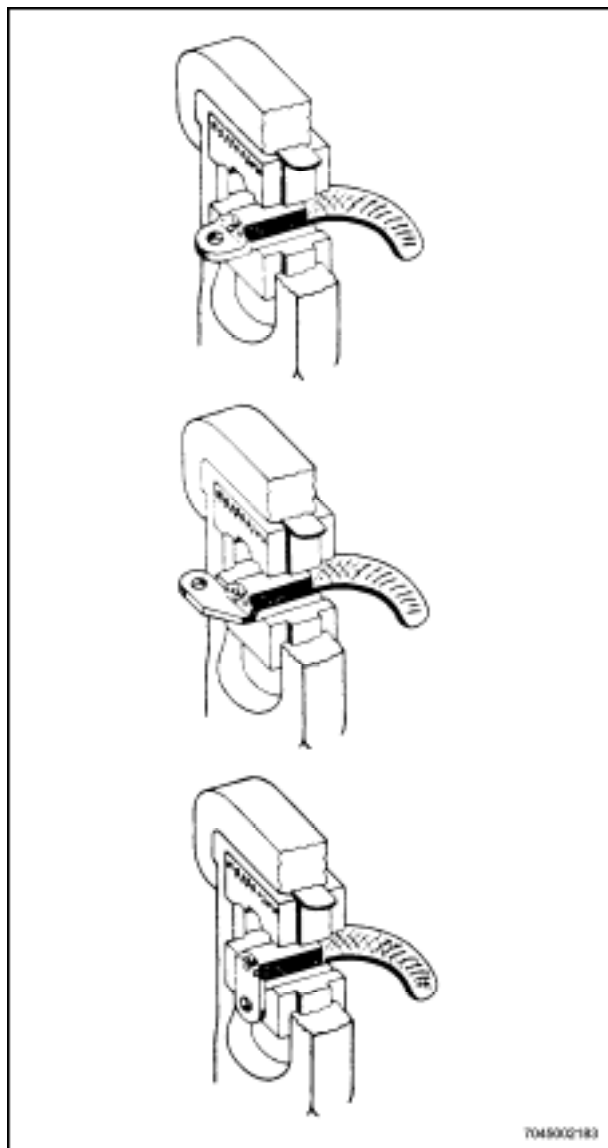

Figure 6-7 Positioning Aluminium Terminal Lugs in Die Nests
- g. Insert assembly into the die and position as shown in Figure 6-7.